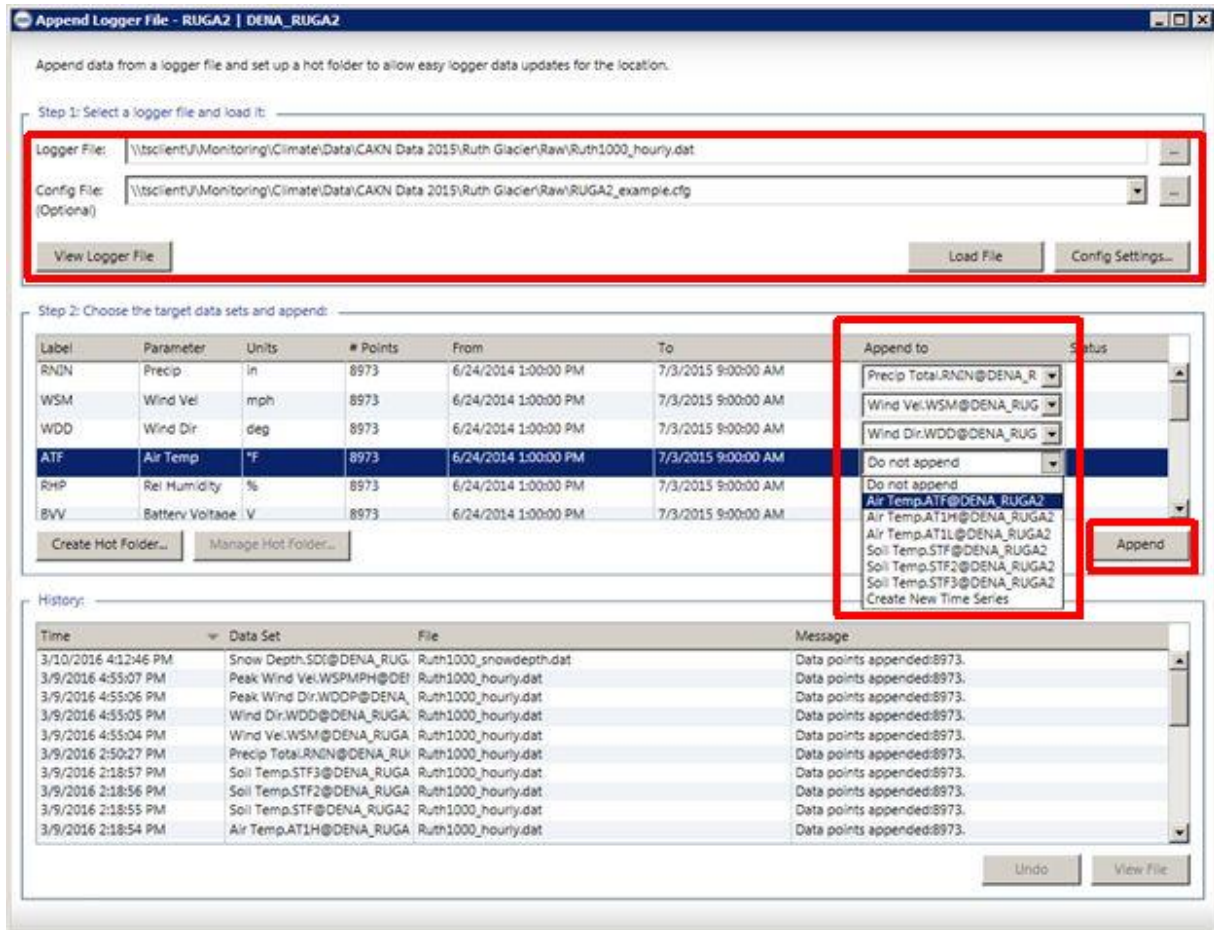

Figure SOP 11-14. The final step of the Append Logger File Toolbox.
4. After the import wizard has finished, the data are loaded into the Append Logger File toolbox (Figure SOP 11-14). Complete Step 2 of the toolbox by selecting the appropriate data containers for each time series under the “Append to” drop-down lists. After all parameters have been selected, click Append. The bottom frame of the toolbox (History) will update and display the number of data points that have been appended to each data set.